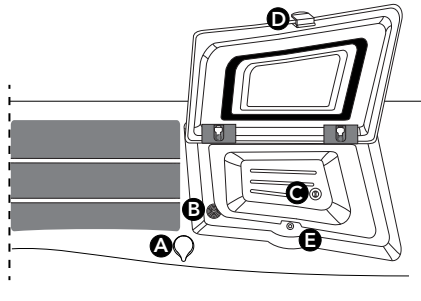
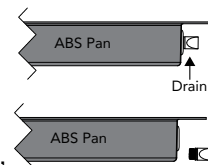

Figure 12.1c
Figure 12.1f
From the Settings Menu (Figure 12.1a) tap **SunCooler™...** to enter the SunCooler Drain Menu, Figure 12.1b. When water accumulates within the SunCooler bins, draining of the water can be done in one of two ways, internally into the hot tub (Figure 12.1d) or externally out of the hot tub (Figure 12.1f). There are also SunCooler perimeter drains, Figure 12.1c. When water accumulates, in the perimeter, draining is continuous any time pump 1 is running.
4. Locate the air control that works with the bin drain, Figure 12.1c, and close it by turning it counterclockwise.
2. Locate the drain plug on the ABS pan of the hot tub, Figure 12.1f.
3. Turn the thumb screw counterclockwise to remove, Figure 12.1f. Place the screw in a safe location to prevent from losing it.